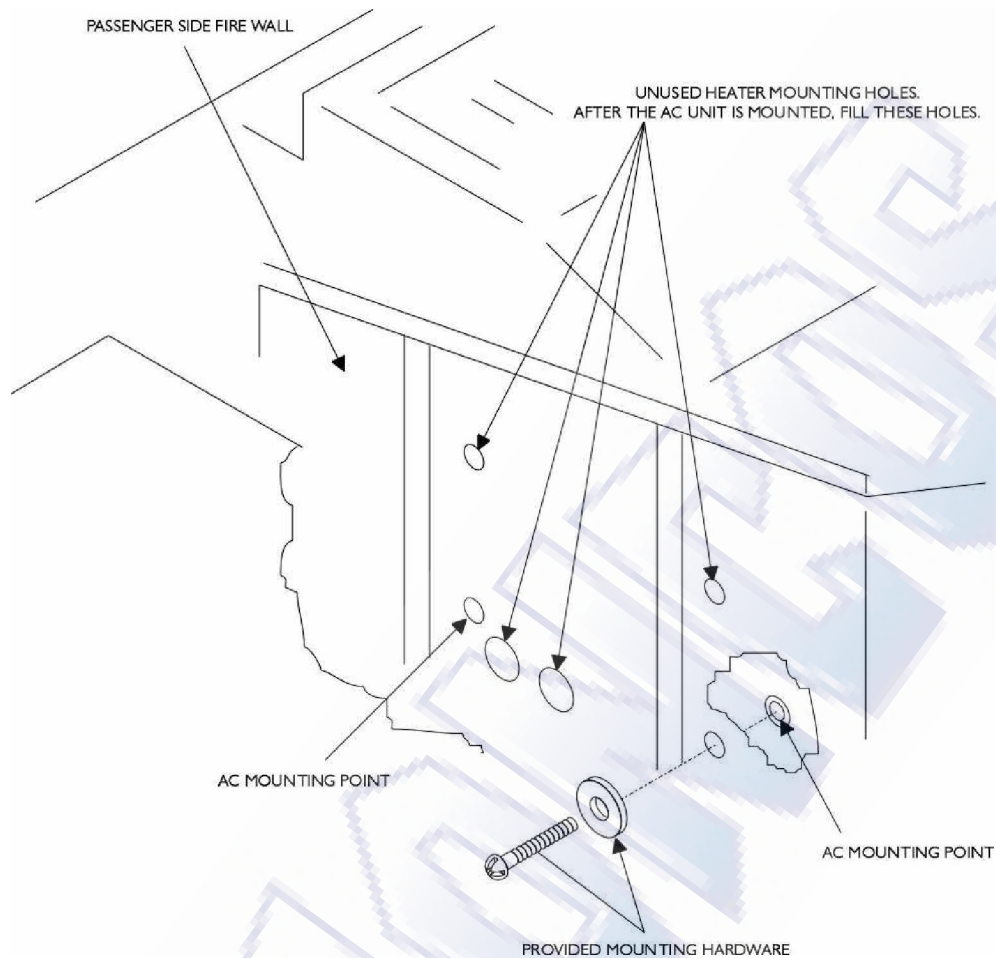

Figure 1. Unmount the stock heater unit.
19. Remove the 4 nuts on the passenger side fire wall that attached the heater/fresh air box to the fire wall. See Figure 1.
36. Locate the ac unit under the dash. See Figure 1.